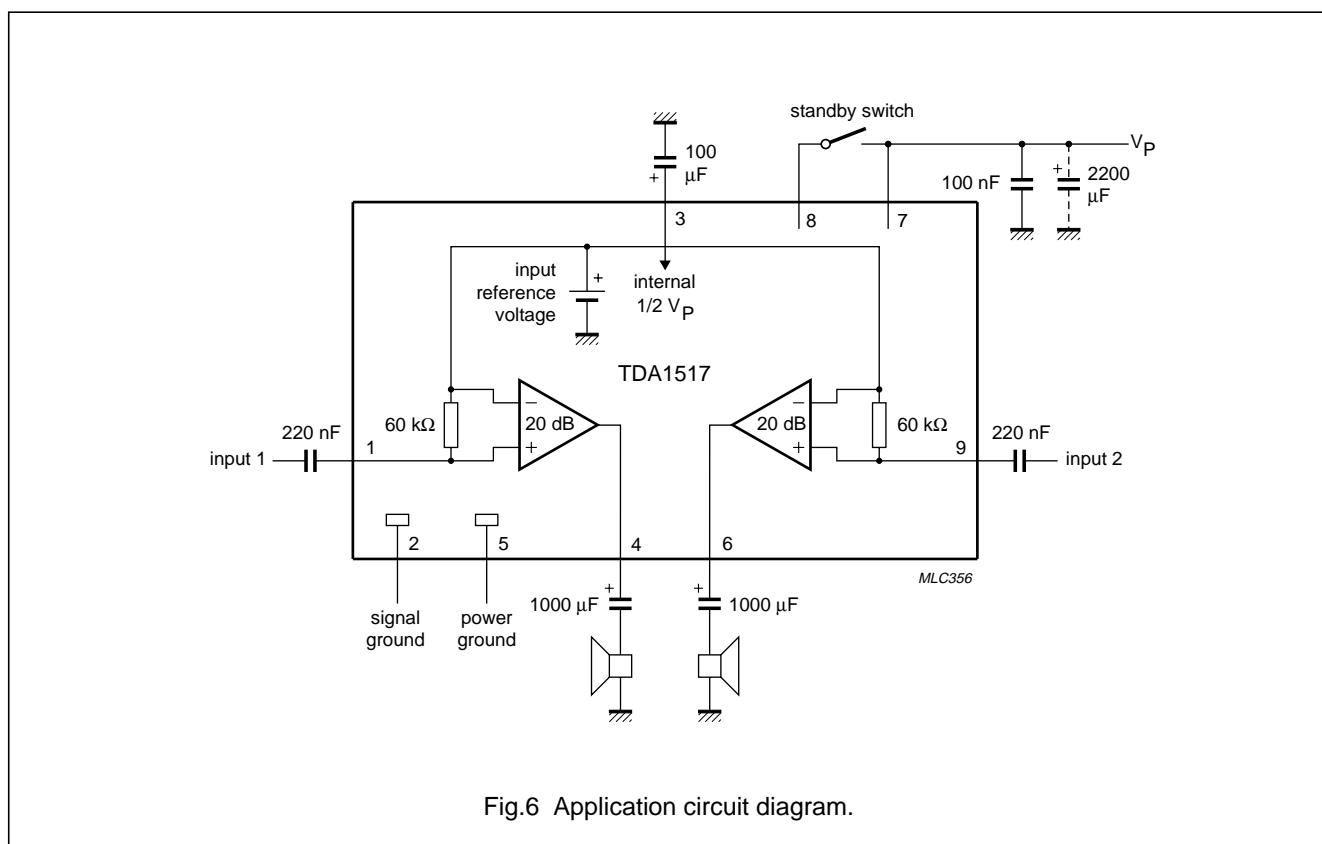

Fig.6 Application circuit diagram.
**2 × 6 W stereo power amplifier****TDA1517; TDA1517P****DC CHARACTERISTICS** $V_P = 14.4$  V;  $T_{amb} = 25$  °C; measured in Fig.6; unless otherwise specified.
$V_P = 14.4$  V;  $R_L = 4 \Omega$ ;  $f = 1$  kHz;  $T_{amb} = 25$  °C; measured in Fig.6; unless otherwise specified.